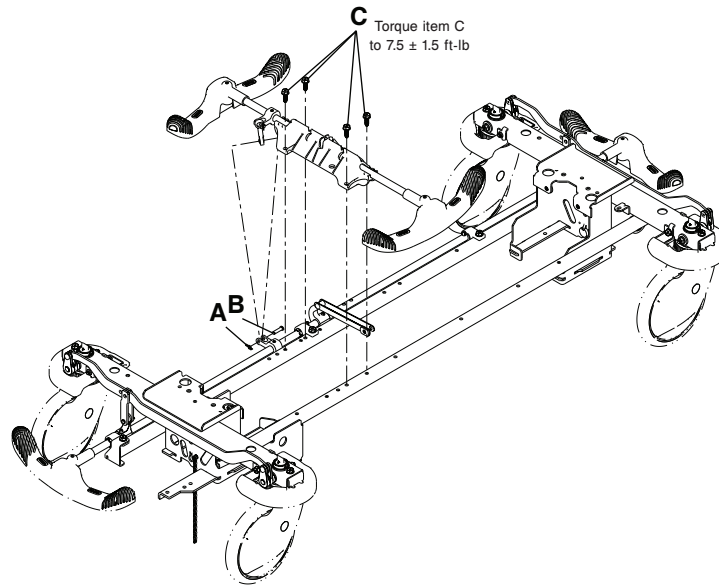

Figure 9 – Replace the brake rod
3. Using needle nose pliers, remove the rue ring cotter (A) and clevis pin (B) that secure the side control brake assembly to the side control brake rod link (Figure 9). Save all parts.